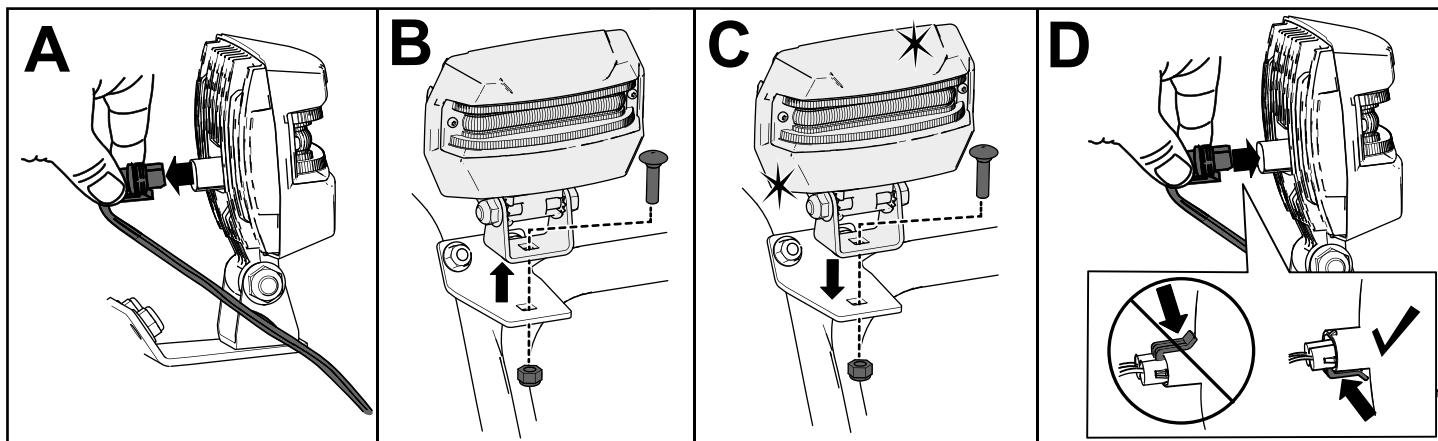

Figure 38
1. Remove the headlight wire from the back of the headlight (A of Figure 38).
2. Remove the bolt and nut holding the headlight assembly onto the headlight bracket and then remove the old headlight assembly (B of Figure 38).
3. Secure the new headlight assembly onto the headlight bracket with the previously removed nut and bolt (C of Figure 38).
4. Insert the headlight wire straight into the back of the headlight until it is securely in place (D of Figure 38).